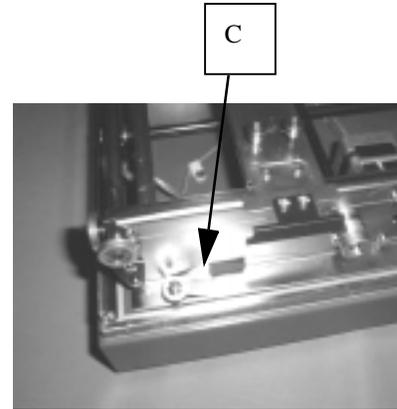

FIGURE 8-4
6. Tighten the X-Y mechanism by setscrews(B) lightly. In this case, tighten the leaf spring to part(C) shown in Fig.8-4 together.